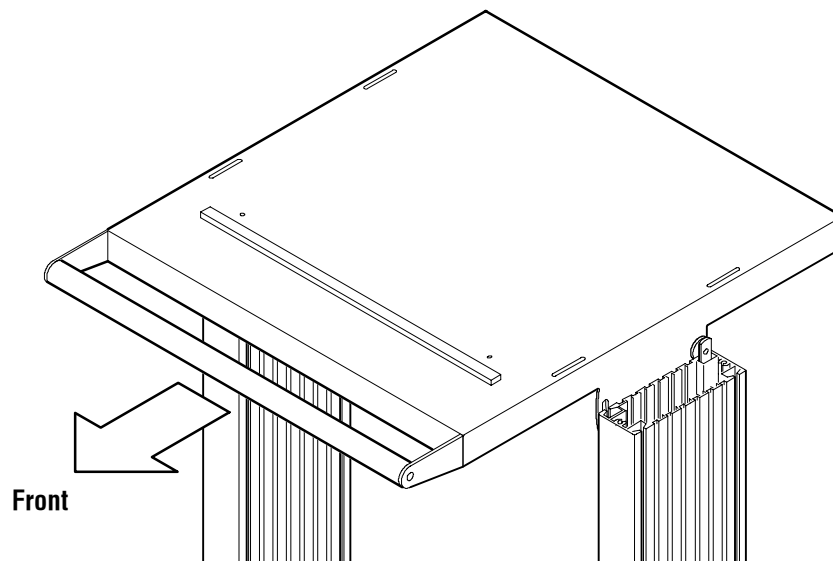

Figure 13: Aligning the Tilt Shelf with Handle
4. Position the tilt shelf with handle horizontally between the leg assemblies, as shown in Figure 13. Make sure the curved slots under the shelf are toward the front of the cart.